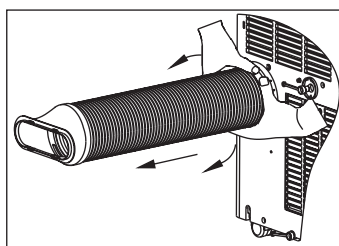

Fig. 30
- Unscrew the exhaust hose to the right or left and pull out for uninstallation (Fig.30), keep it safety or place behind the air intake grille, and cover the window (wall) hole with the adaptor cap.